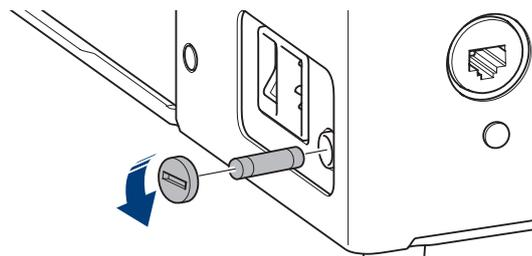

Figure 38. Replace the fuse.
- Using a flat-bladed screwdriver, push and turn the slotted center of the fuse holder counterclockwise until the holder pops out; see Figure 38.